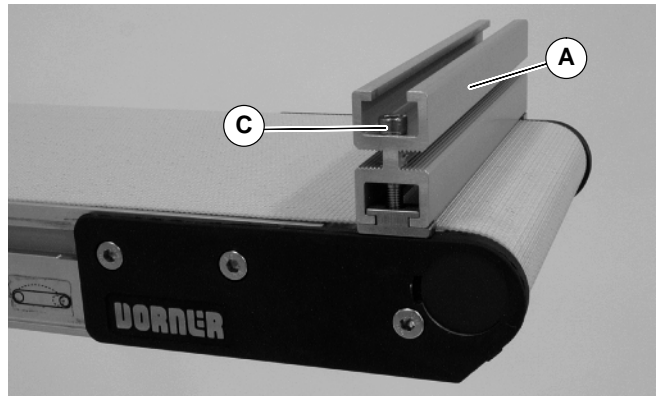

Figure 3
3. Install end stop with spacers (A of Figure 3) on end of conveyor with M5 screws (CC). Tighten screws to 30 in-lb (3.4 Nm).